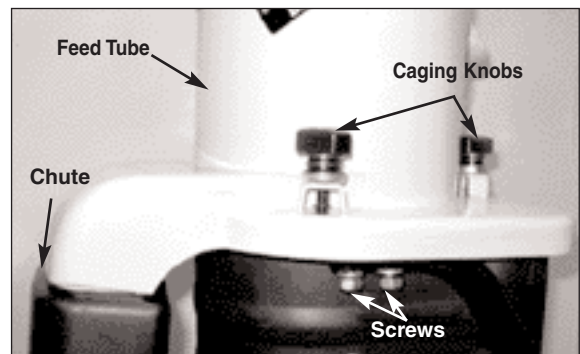

Fig. 5
1. Remove feeder tube from motor assembly by loosening 3 Spring Loaded caging knobs. (Fig. 5)
4. Secure with flat washers, lockwashers and hex nuts as shown in Fig. 5 & Fig. 6.